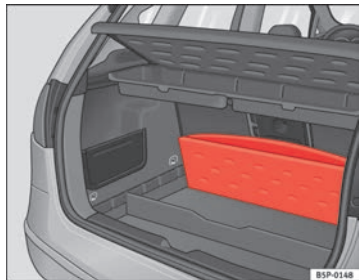

Fig. 105 Variable luggage compartment floor storage compartment
- Lift the luggage compartment floor and fold it back all the way ⇒ Fig. 105.